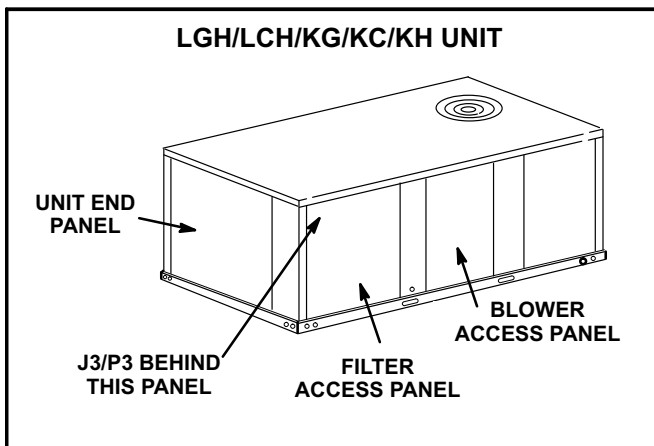

FIGURE 1
- 3- Remove and retain five screws securing end panel to the unit. See figure 1. Remove and discard end panel.
- 3- Remove and retain screws securing end panel to the unit. See figure 1. Remove and discard end panel.